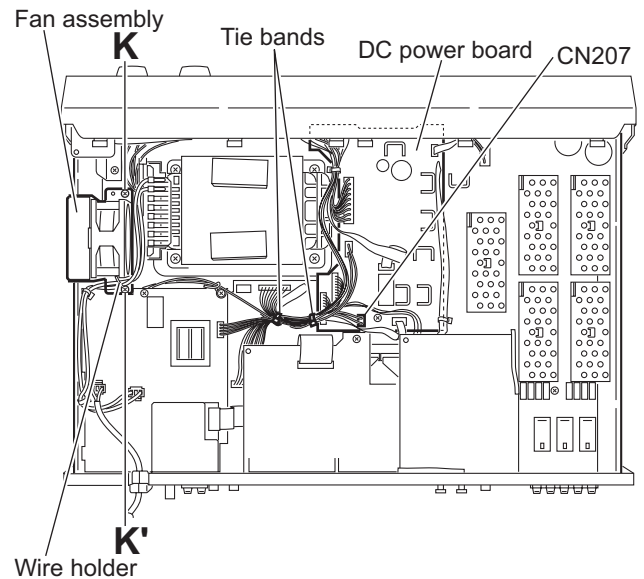

Fig.12
3.1.9 Removing the fan (See Figs.12 and 13)
- (1) From the top side of the main body, cut the tie bands and disconnect the wire from the connector CN207 on the DC power board. (See Fig.12.)
- (2) Remove the screw K and screw K' attaching the fan assembly, then remove the fan assembly. (See Fig.12.)